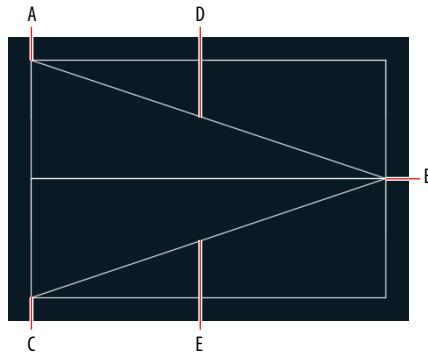
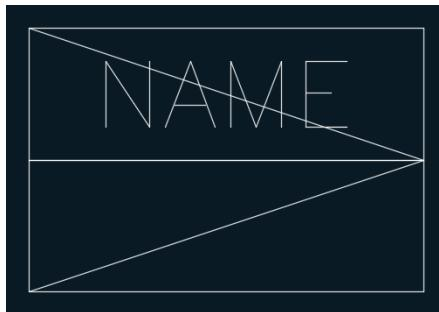
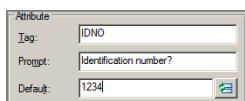

FIGURE 15.8 Drawing simple geometry to form the basis of an attributed block
FIGURE 15.10 Placing an attribute definition in relation to the block definition geometry
FIGURE 15.11 Creating another attribute definition
4. Click the Line tool in the Draw panel, and click points A, B, and C in Figure 15.8. Press Enter to end the LINE command.
8. Click OK to close the Attribute Definition dialog box. Click the midpoint at point D in Figure 15.8. Figure 15.10 shows the result.
9. Press the spacebar to repeat the ATTDEF command. Type **IDNO** as the tag, **Identification number?** as the prompt, and **1234** as the default (see Figure 15.11). Set Justification to Middle Center and click OK. Click the midpoint of the lower diagonal line at point E in Figure 15.8.
12. Click the Pick Point icon in the Base Point area, and then click point C in Figure 15.8.